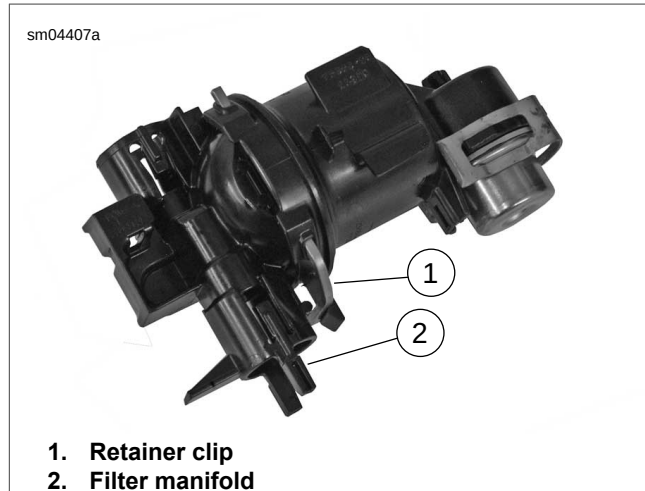
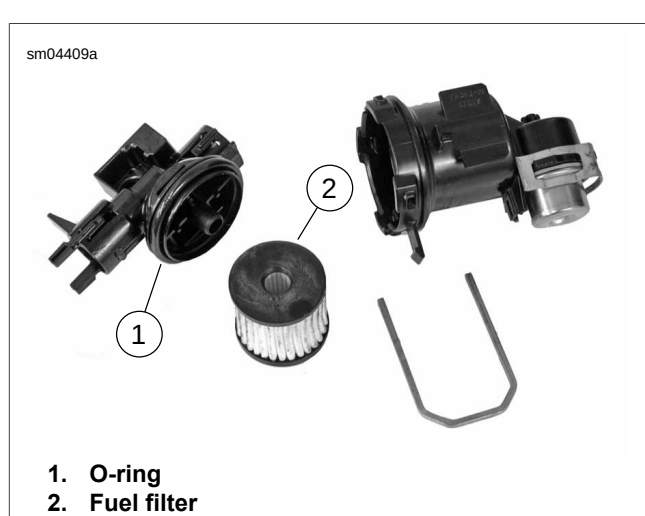

Figure 4-40. Fuel Filter Housing
Figure 4-41. Fuel Filter
1. See Figure 4-40. Remove retainer clip (1).
2. Separate filter manifold (2) from fuel filter housing.
3. See Figure 4-41. Remove O-ring (1) and fuel filter (2).
6. See Figure 4-40. Install filter manifold (2) and retainer clip (1).